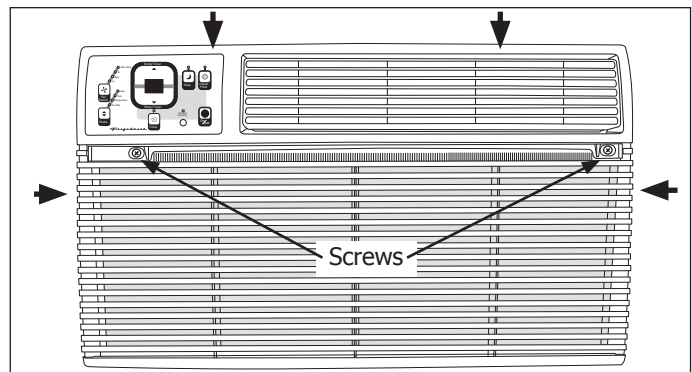

Figure 4-55.
3. Extract the two screws securing the front panel to the unit. Screws are visible with the filter removed. (See Figure 4-55)
4. Using a putty knife, carefully pry out the side and top retaining clips from the slots cut in the cabinet wrapper. (See Figure 4-55, Arrows show tab locations)